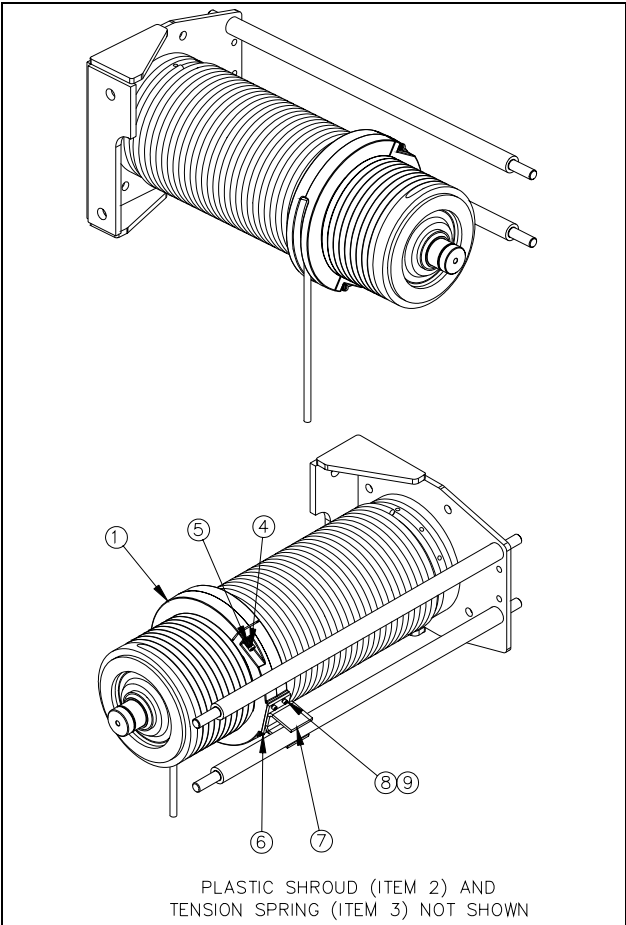

Figure 5-3. Rope Guide Assembly.
- b) Disassembly. Refer to Figure 5-3. For further assistance in locating components refer to the parts list in Section X.
- (1) Remove socket head cap screws and lock washers (Items 8 and 9). Take off mounting clip (Item 7).
- (2) Remove shoulder bolts (Item 4) and compression springs (Item 5). The two halves of the rope guide body (Item 1) can now be pulled off the drum separately. When reassembling be sure that the half with the rope slot is on the top half of the drum.
- (3) Re-install rope guide over rope in rope drum grooves as shown in Figure 5-3. and outlined in Section V, Paragraph 5-6. Continue lubricating as rope is spooled onto the drum until about 28’-0” remain unwound.